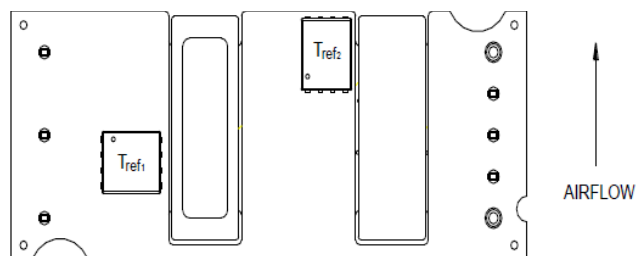
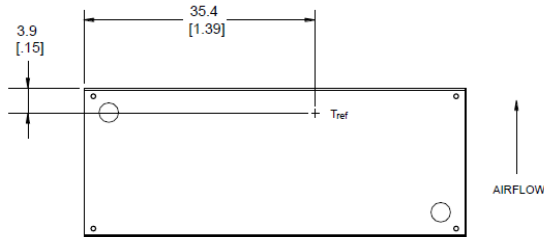

Figure 13.  $T_{\text{ref}}$  Temperature Measurement Locations for Open Frame Module.
Figure 14. Tref Temperature Measurement Location for Module with Heatplate.
To provide protection under certain fault conditions, the unit is equipped with a thermal shutdown circuit. The unit will shutdown if the thermal reference point,  $T_{ref}$ , exceeds 135°C (Figure 13, typical) or 120°C (Figure 14, typical), but the thermal shutdown is not intended as a guarantee that the unit will survive temperatures beyond its rating. The module will Overtemperature Protection automatically restart upon cool-down to a safe temperature.
The thermal reference point,  $T_{\text{ref1}}$  and  $T_{\text{ref2}}$  used in the specifications for open frame module is shown in Figure 13. For reliable operation this temperature should not exceed 120°C and 124°C
The thermal reference point,  $T_{\text{ref}}$ , used in the specifications for modules with heatplate is shown in Figure 14. For reliable operation this temperature should not exceed 98 °C.